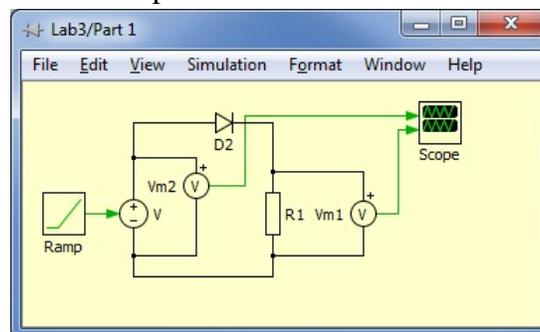

Figure 5: PLECS Circuit 1
- For the diode circuit shown in figure 5, let the diode have an abrupt turn-on voltage of 0.7V and a reverse saturation current of $\sim 0\text{A}$ and let the resistor be $R=1.0\text{k}\Omega$. Show the load-line equation for this circuit with variables V and I . Calculate the voltage across the resistor using the graphical load-line approach for $V_s = -10, -6, -2, +2, +6, +10\text{V}$ (show each calculation explicitly). Put the results in a table with columns for V_s and V_R .
- (1) What is the current through the diode of figure 5 at 1.0V? Compare the value to the theoretical values.